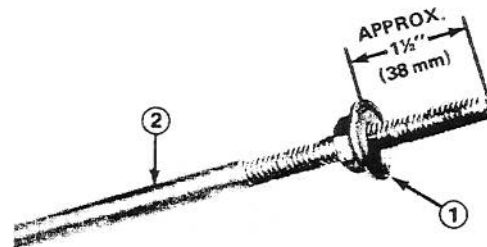

Figure 3
1. Thread a flange nut (flange side down) onto traction rod located on left handle (Fig. 3).